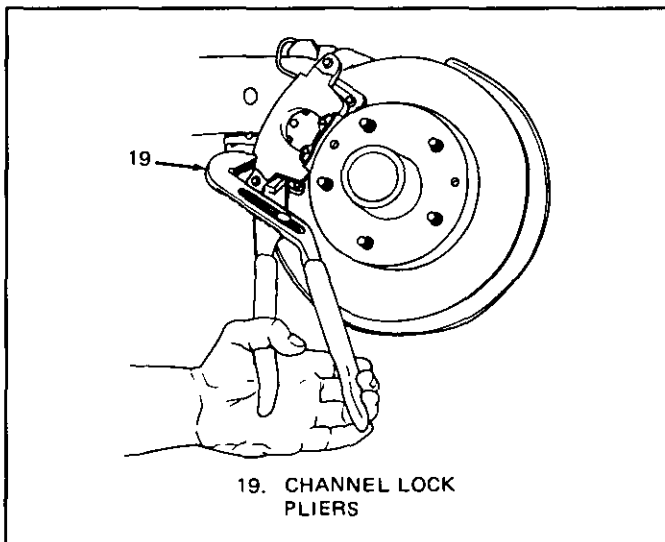

Figure 10 Clinching Procedure
7. Position 12-inch channel lock pliers (19) over brake shoe ears and bottom edge of caliper (13) as shown in Figure 10.